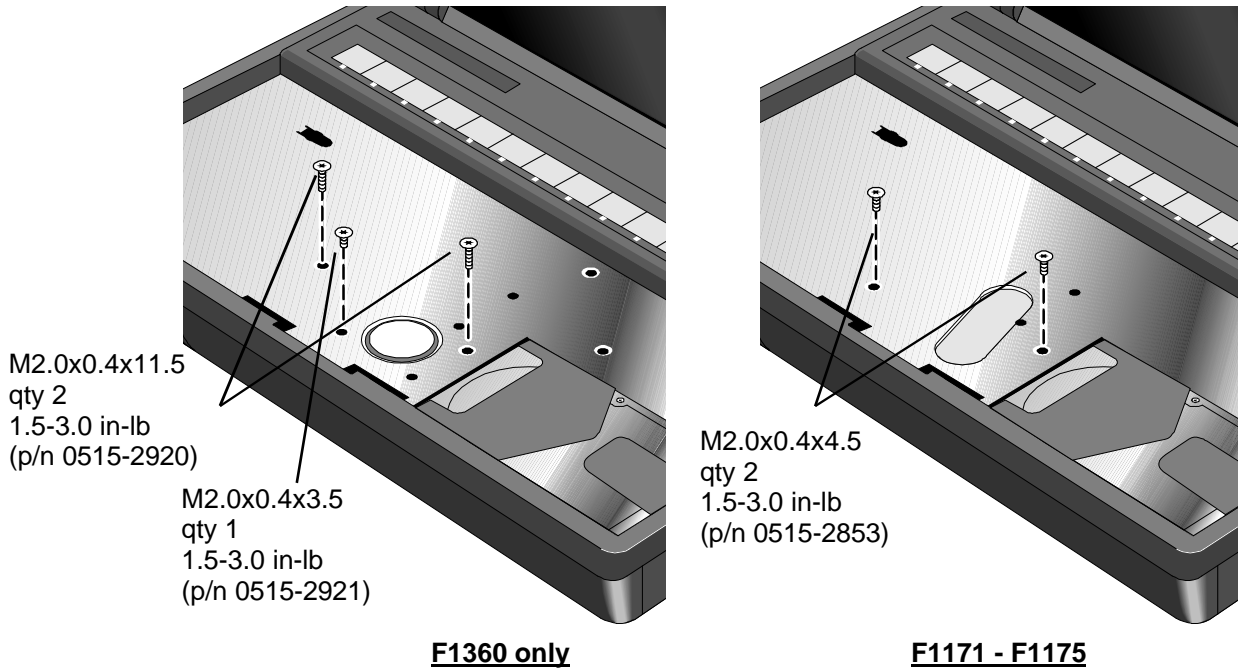

Figure 33 - Keyboard Support Plate Screws
5. Remove the Keyboard Support Plate Screws. Refer to Figure 33 for proper placement of screws for each of the OmniBook 800s. The F1360 has three screws, while the F1171-F1175 only have two. **Note – If the Keyboard Support Plate Screws are impossible to unfasten (due to thread corrosion or stripped head), remove the CPU Screws instead, which can be accessed from the Keyboard Support Plate. The Top Case and Display**